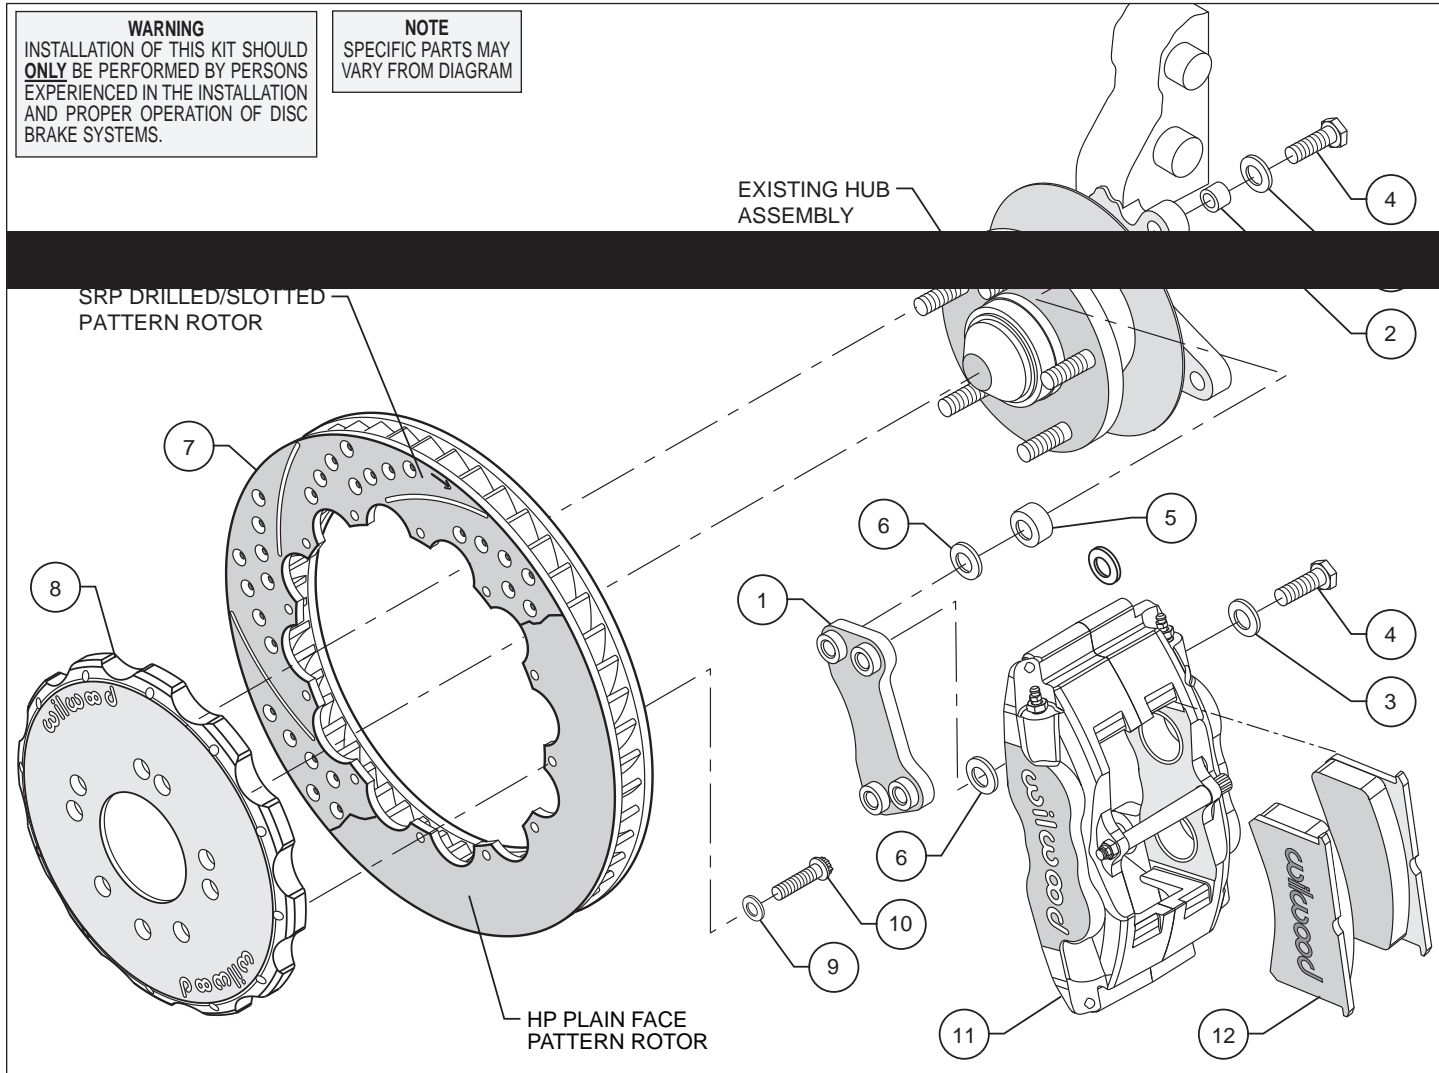

Figure 1. Typical Installation Configuration
- Insert one sleeve (2) each into the holes on the top and bottom of the spindle “ears” where the OEM caliper bracket was removed. Apply red *Loctite*® 271 to the caliper mounting bracket bolt threads (4) before installation of the caliper mounting bracket (1). Install the bracket with the flanged heads of the clinch nuts facing outboard, as shown in Figure 1. Slide bolt (4) through washer (3) and into the previously installed sleeve (2) from the backside of the hub. On the front side of the hub place spacer (5) and one shim (6) between hub and bracket. Finger tighten. Repeat for the lower mounting holes. Torque bolts to 60 ft-lb.
- NOTE:** Please reference the caution statement at the beginning of the assembly instructions. Mount the caliper (11) onto the caliper mounting bracket (1) using bolts (4) and washers (3), as shown in Figure 1. View the rotor (7) through the top of the caliper (11). The rotor should be aligned in the center of the caliper. If not, loosen the bolts and adjust the caliper by using 0.016 inch thick shims (6). Finger tighten and recheck alignment. Always use the same amount of shims on both the top and bottom caliper mounting bolts. Loosen the bolts and apply red *Loctite*® 271 to bolt threads, and torque to 75 ft-lb.
- Remove the caliper bridge bolt and install the disc brake pads (12) then reinstall the caliper bridge bolt.